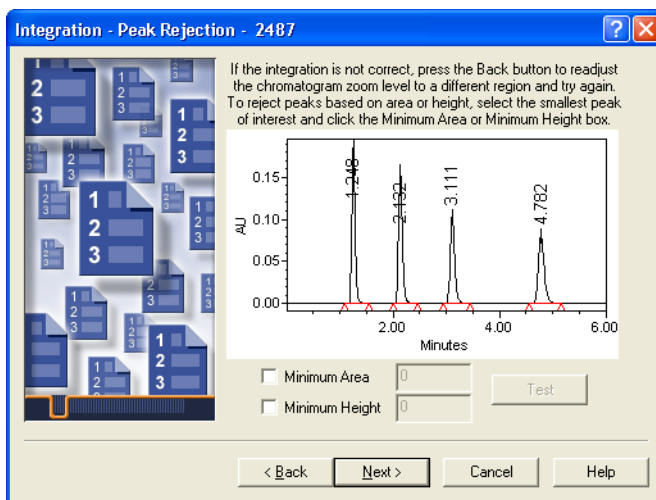

Figure 4-24 Processing Method Wizard, Integration–Peak Rejection
10. Click **Next**. The Integration–Peak Rejection page appears (Figure 4-24).